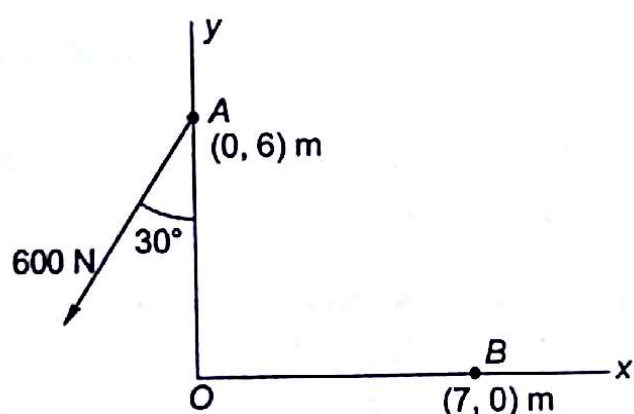

Fig. 2.22
- 2.2 A force of 600 N is applied at A (0, 6) m of a rigid body. What is the equivalent force and couple at point B (7, 0) m as shown in Fig. 2.22?